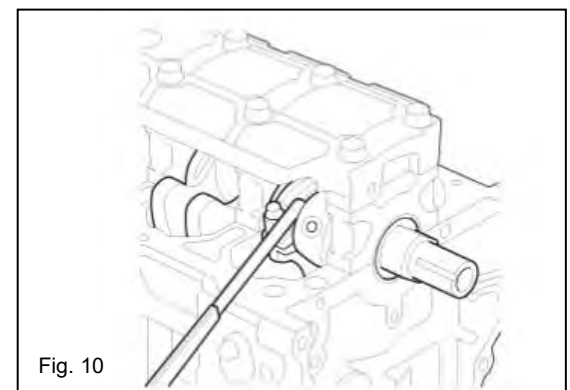

Fig. 10
- 4.7 Measure the clearance between the connecting rod and the crankshaft with a thickness gauge. (See Figure 10).